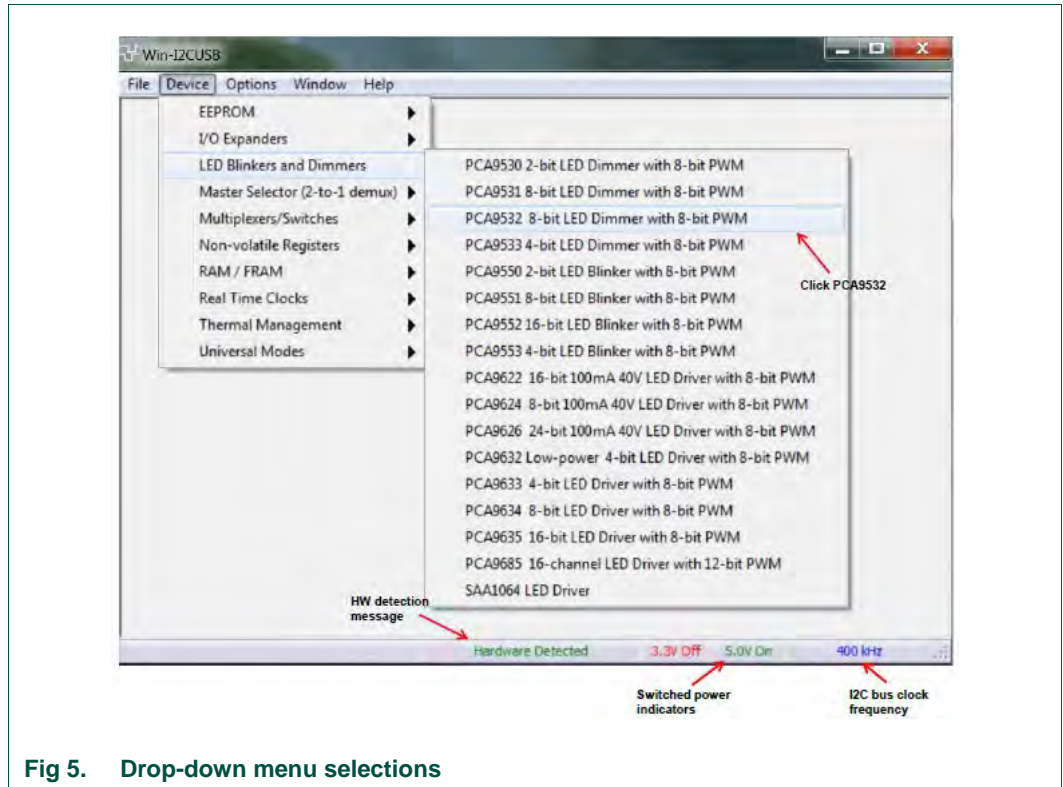

Fig 5. Drop-down menu selections
Connect the hardware as described in Section 4. The PCA9532 demo board address is set to 0xC0 on switch (SW1) as $A[0:2] = SW1[4:2] = 000$ (0 -> ON, 1 -> OFF). When you have correctly installed the software and the demonstration board hardware is connected and recognized by the computer, start the Win-I2CUSB software. As shown in the Fig 5, when the demonstration board hardware is correctly connected to the USB port and the computer recognizes it, the message “Hardware Detected” is displayed on the bottom of the window.
1. From the ‘Device’ drop-down menus select ‘LED Blinkers and Dimmers’, and from the subsequent drop-down menu select ‘PCA9532 16-bit LED Driver with 8-bit PWM’ as shown in Fig 5.